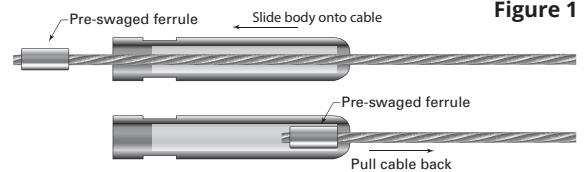

Figure 1
3. Slide the body of the Adjust-a-Body® with Hanger Bolt Tensioner onto the bare end of the cable, threaded end first, and pull it the length of the cable until it is stopped by the ferrule which is already swaged onto the cable. (Figure 1)